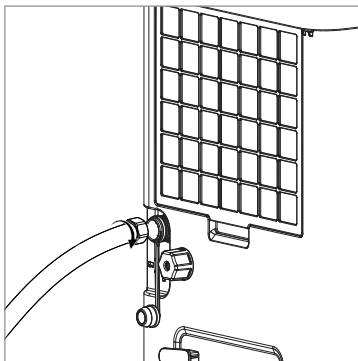

Fig. 4
- ◆ Screw a garden hose onto the 3/4" thread of the water outlet opening ⑦, which serves as an integrated EU garden hose adapter (see Figure 4).